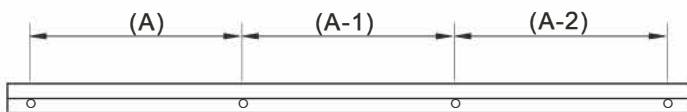

Fig. 1
1.2 Measure the distance of the holes (A, A-1, A-2) in the mounting bracket with a tape measure and mark the wall with a pencil (Fig 1)